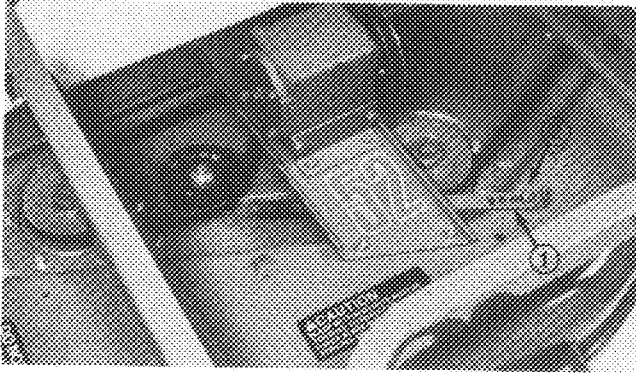

Figure 19
2. Remove nut securing spring anchor to capscrew in housing (Fig. 19). Lift anchor off capscrew and pull to increase belt tension. Correct belt tension is achieved when approximately 30-40 lbs. of force is applied to spring.
2. Remove nut securing spring anchor to capscrew in housing (Fig. 19). Lift anchor off capscrew and allow belt to relax.